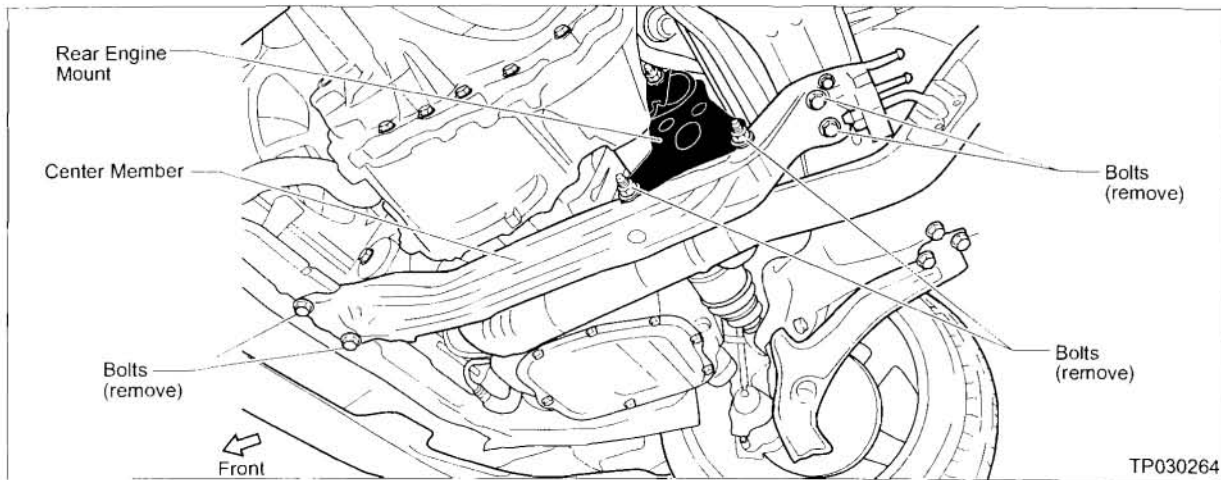

Figure F4
- Remove the Center Member, but leave the Rear Engine Mount on the engine (see Figure F4).